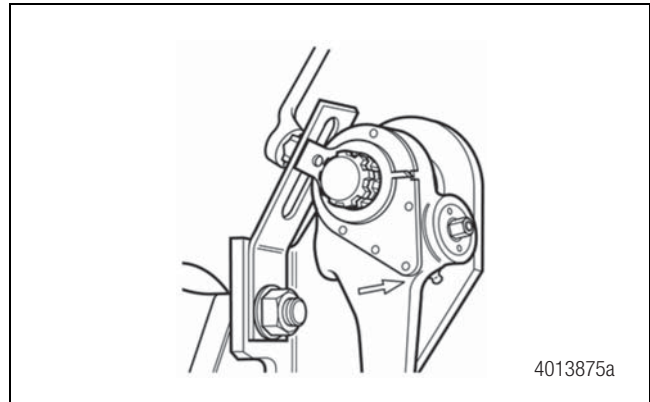

Figure 6
- Connect the control arm to the strap bracket. Figure 6.